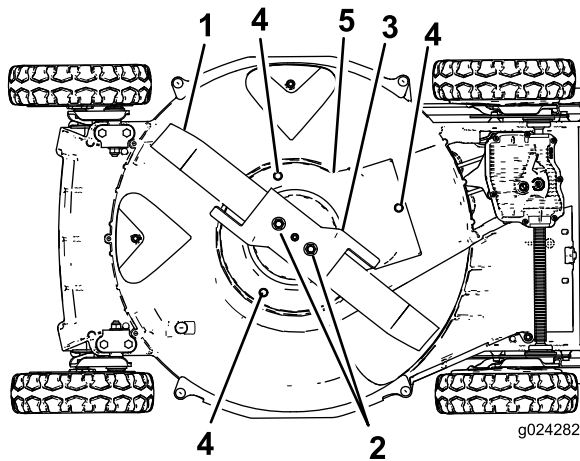

Figure 37
6. Remove the 2 blade nuts, the accelerator, and the blade (Figure 37).
7. Remove the screws that secure the blade-brake-clutch shield to the mower housing (Figure 37).